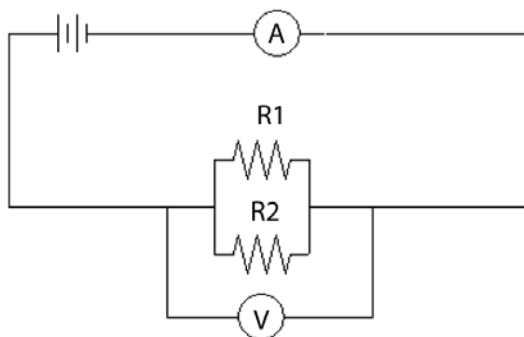

Figure 3.14: Schematic for 2 resistors connected in parallel.
4. **Construct the circuit shown in Fig. 3.14.** Use two different resistors having resistances of approximately $1\text{ k}\Omega$ and $2\text{ k}\Omega$. Set the power supply voltage to the middle of its range and record your measured voltage and current in Data Table 4. For two resistors wired in parallel, the uncertainty of the equivalent resistance is given by Eq. 3.6.